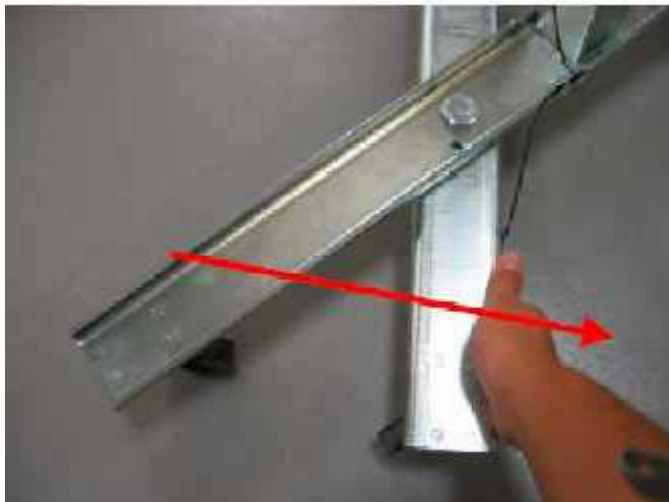

Figure A-9 Front Cover Dolly Base Assembly
2.) Pull feet out to form cross (see Figure A-9).